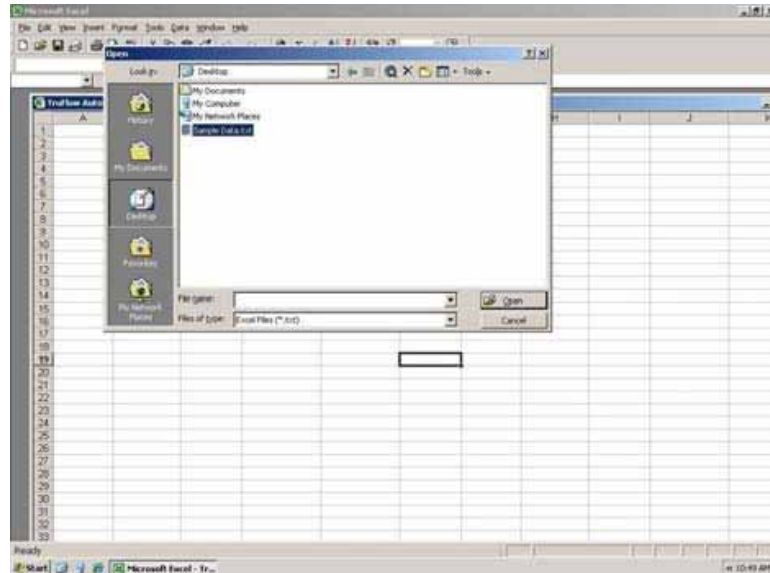

Figure 17 Opening the data file
12. See Figure 17. Navigate to the directory that contains the saved text file and open the file.